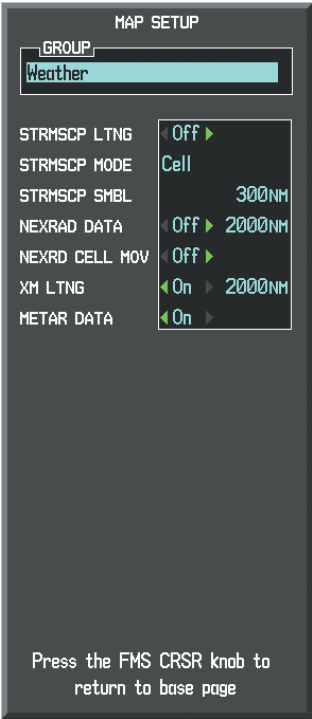

Figure 6-70 Map Setup Menu
- 4) Turn the large **FMS** Knob to highlight and move between the product selections (Figure 6-70).
The following options are available (Figure 6-70):